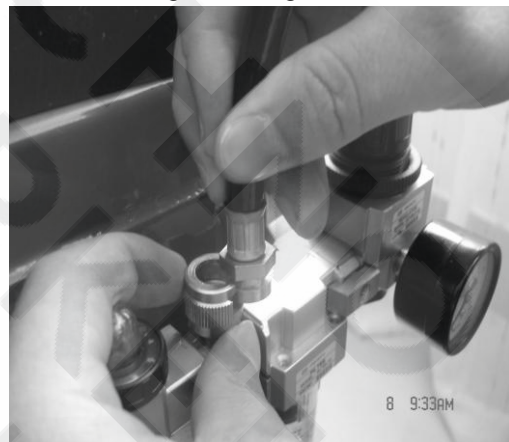

FIG16
3.3.3 Connect the inflation gun and the inflation gauge box : Inlay the adapter of the inflation gun or inflation box into the open nut on the air source fitting. Tighten the open nut. See the fig16 and then connect the air source.